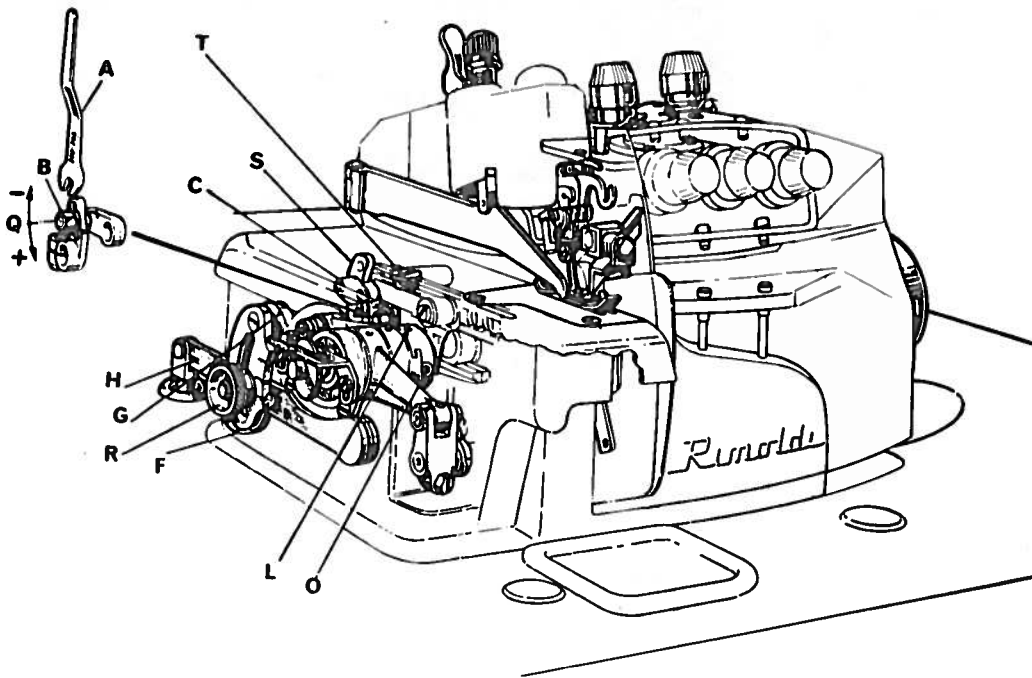

fig.16
10. Feed (fig. 16).
e) Stitch length adjustment (fig. 16)